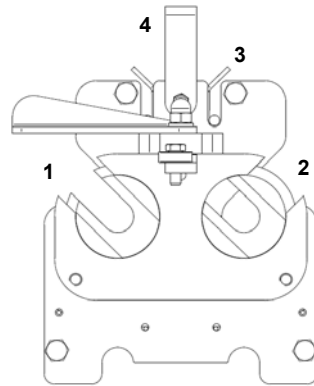

Fig. 6.2.3
the roller (position “2” Fig. 6.2.3 – the knob will click slightly).
- Move the cartridge using the handle (Ref. 4 Fig. 6.2.3).
- To insert the blade roller, turn the blade cartridge knob so that the slot opens (position "1" Fig. 6.2.3 – the knob will click slightly).